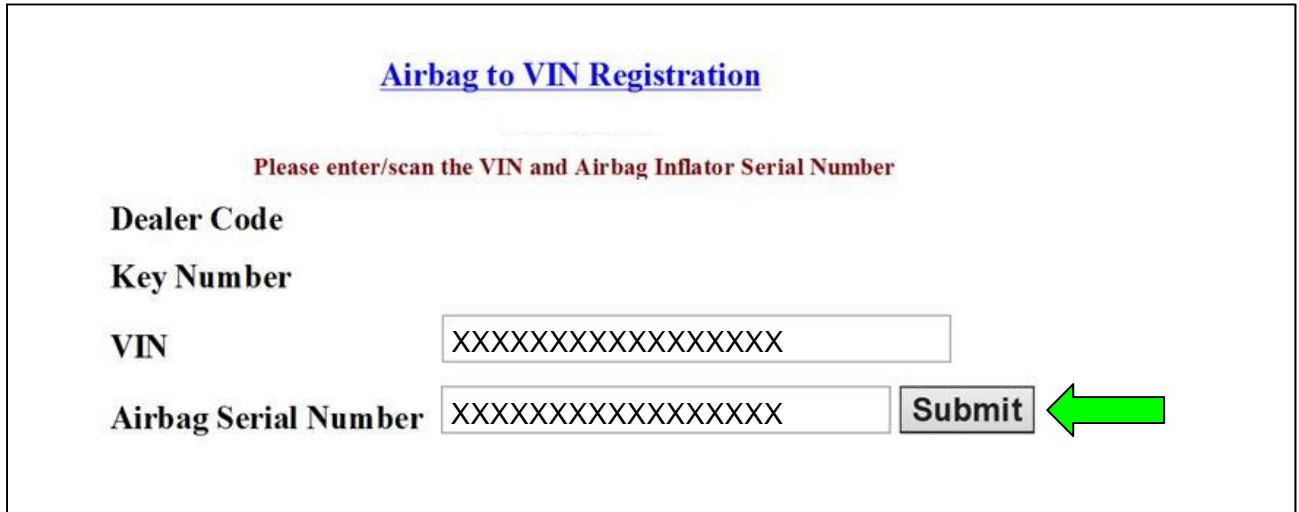

Figure 8
- Hold tool J-52352 about six (6) inches away from the VIN label.
- The VIN will populate automatically. See Figure 8 on page 7.
- The airbag module serial number will populate automatically below the VIN. See Figure 8 on page 7.